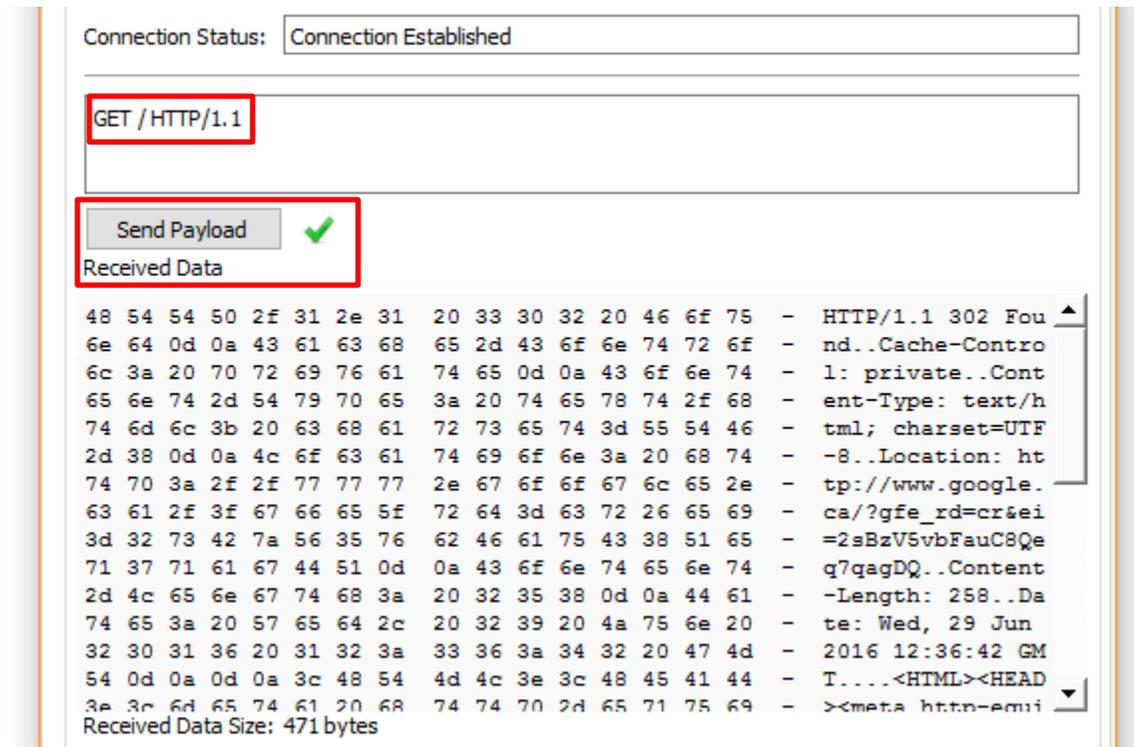

Figure 18 GET Request
- 5- To fetch the contents of a web page, enter a GET request in the text box above the “Send Payload” button (see Figure 18).
- 7- The Received Data text box in Figure 18 will contain the result of the HTTP GET request.